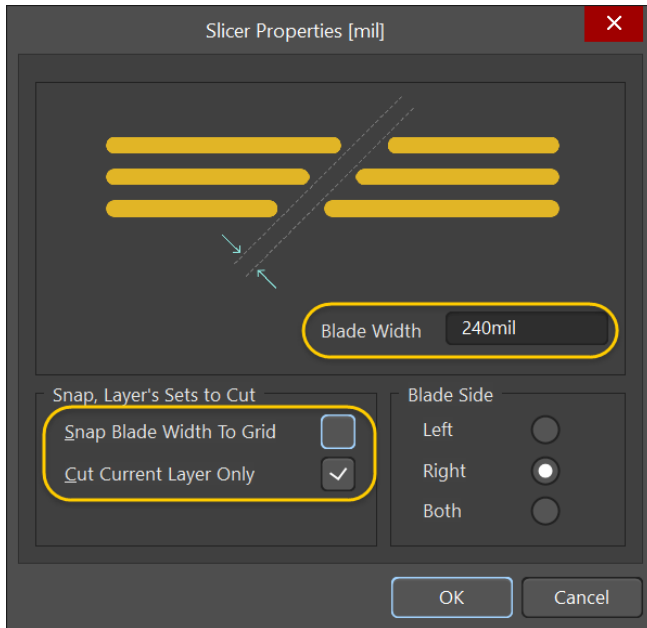

Figure 11. Slicer Properties
- e) Press the **TAB** key to bring up the *Slicer Properties* dialog as shown in Figure 11.